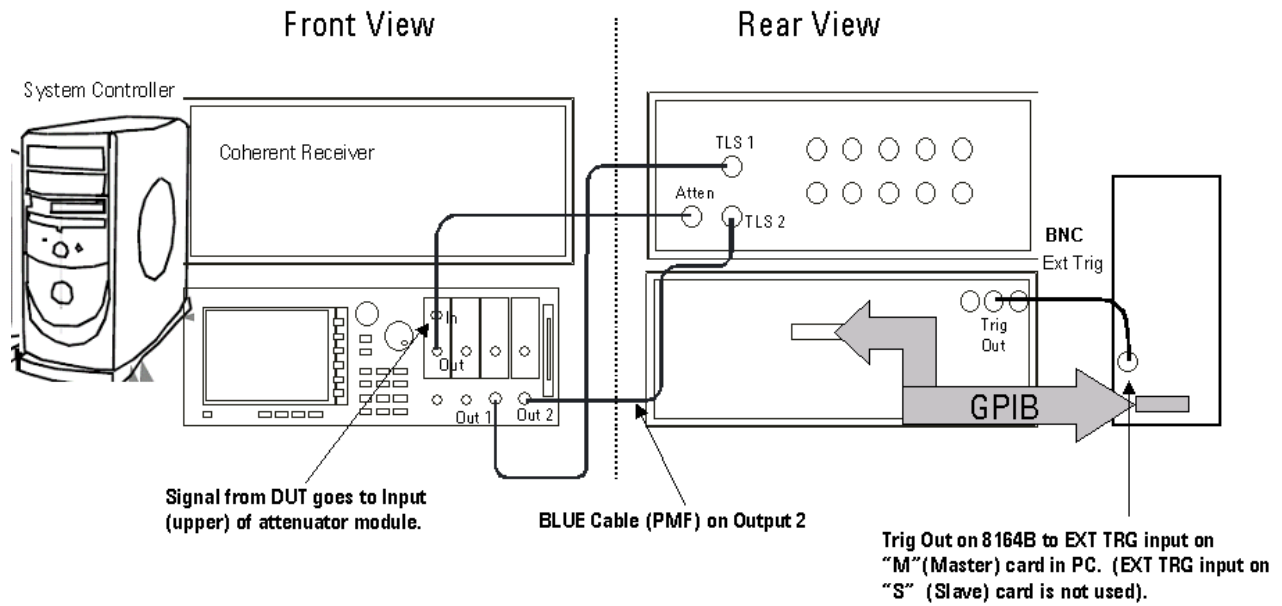

Figure 1 Agilent 83453B Cabling Configuration
- 1 Confirm the cabling of the Agilent 83453B HRS system. Refer to Figure 1 on page 15 and the table below.